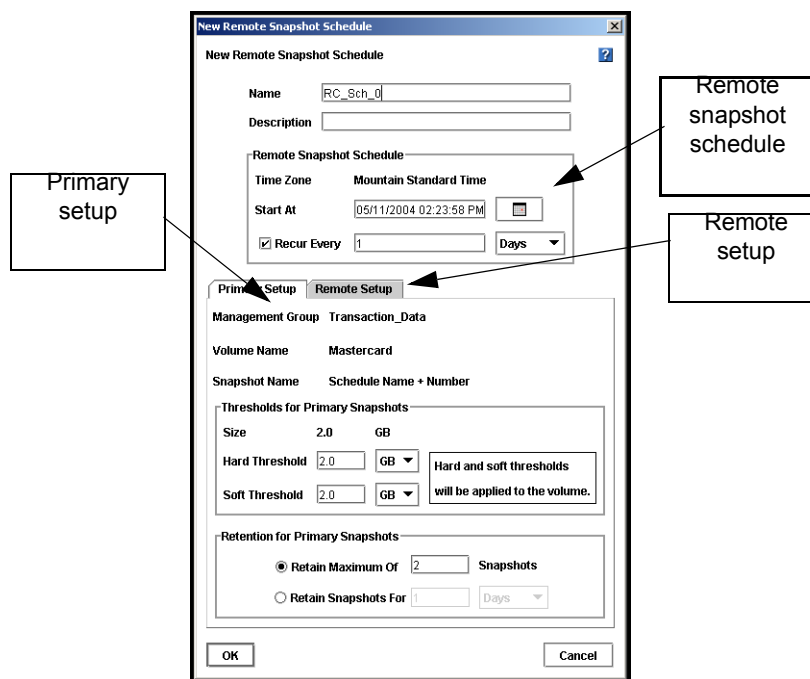

Figure 247. Creating a New Remote Snapshot Schedule
1. Right-click the volume for which you want to create the remote snapshot schedule and then select Remote Copy > New Remote Snapshot Schedule. The New Remote Snapshot Schedule window opens, shown in Figure 247.